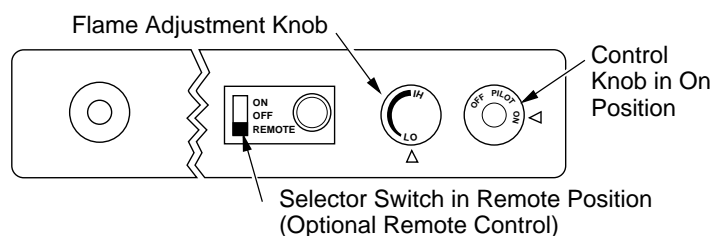

Figure 33 - Setting the Selector switch, Control Knob, and Flame Adjustment Knob for Hand-Held Remote Operation
1. After lighting, let pilot flame burn for about one minute. Turn control knob to ON position. Adjust flame adjustment knob anywhere between HI and LO. Slide the selector switch to the REMOTE position (see Figure 33). *Note:* The burner may light if hand-held remote was on when selector switch was last turned off. You can now turn the burner on and off with the hand-held remote control unit. **IMPORTANT:** Do not leave the selector switch in the REMOTE or ON position when the pilot is not lit. This will drain the battery.